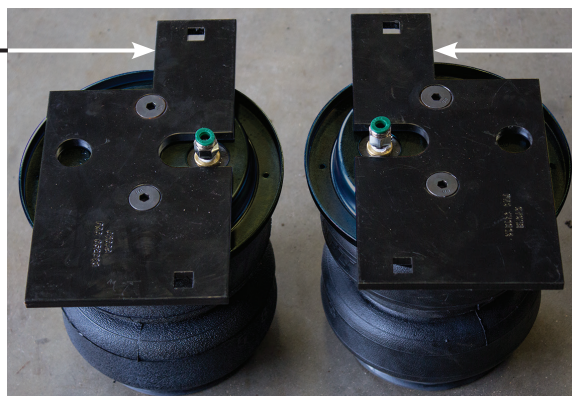

fig. 7
4. The air spring assemblies are specific to the driver's (left) side and passenger's (right) side (Fig. 7). Set aside for later use.